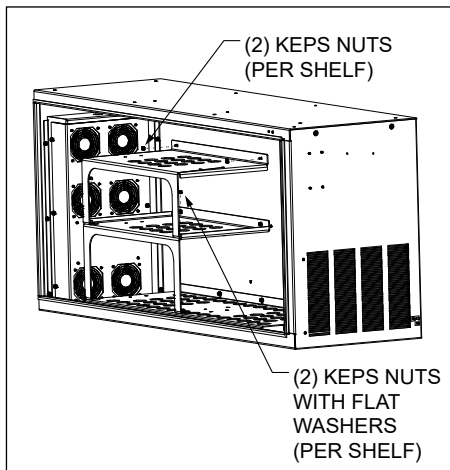

Figure 11 Radio Shelves
11. The two radio shelves are stacked together, with the taller of the two shelves (for the 4890 radio) on the bottom. Secure the lower shelf to the bottom panel and then secure the upper shelf to the top of the lower shelf (Figure 11). For each shelf, use two Keps nuts with flat washers to the panel below and two Keps nuts to the rear panel)